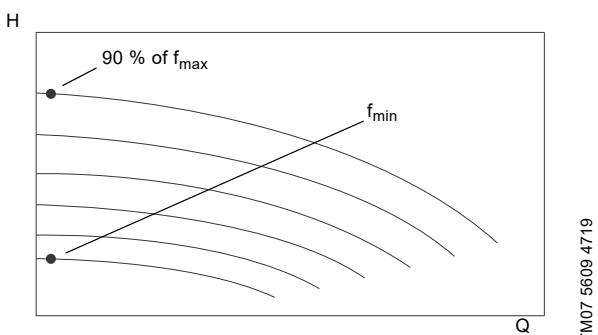

Fig. 115 H-Q curve for variable speed pump for choosing low flow operating points
3. Click on the pump curve to set the duty point as close to f_{min} and enter Q to 0.1 as Operating point. See fig. 115
5. Click on the pump curve to set the duty point as close to 90 % speed and enter Q to 0.1 as Operating point. See fig. 115.